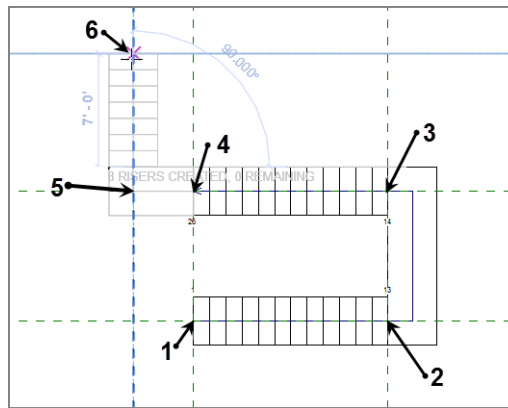

FIGURE 10.66: Picking the intersections of the reference planes to determine where the stairs will go
6. Draw your stairs as shown in Figure 10.66. (Pick the points as the figure is sequenced.)